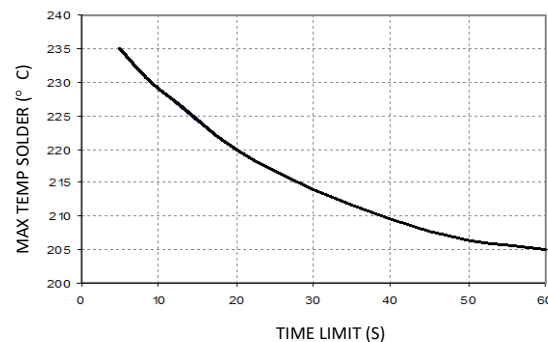

**Figure 53. Column Pin Connector Before and After Reflow Soldering.**
The surface mountable modules in the SW/SC family use our SMT technology called "Column Pin" (CP) connectors. Figure 53 shows the CP connector before and after reflow soldering onto the end-board assembly.